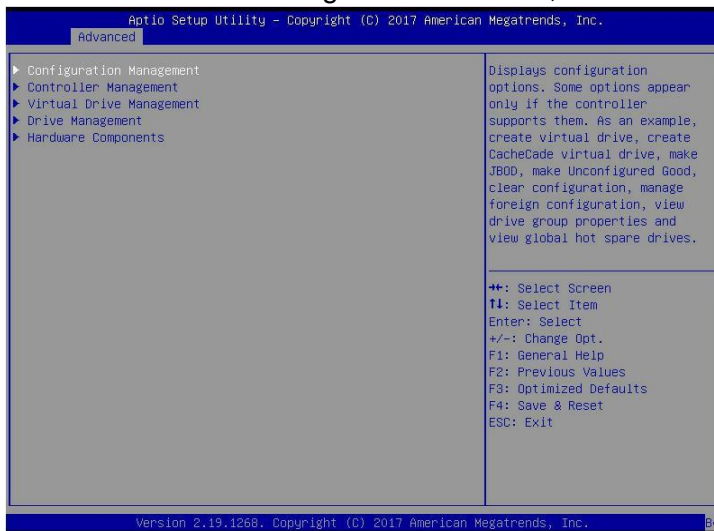

Figure 6-25
- Enter the interface shown in Figure 6-25, and five types of configuration tasks are displayed on the interface (refer to Table 1-31 for related instructions).
- ✧ Figure 6-25 RAID card configuration interface, as shown in Figure 6-25